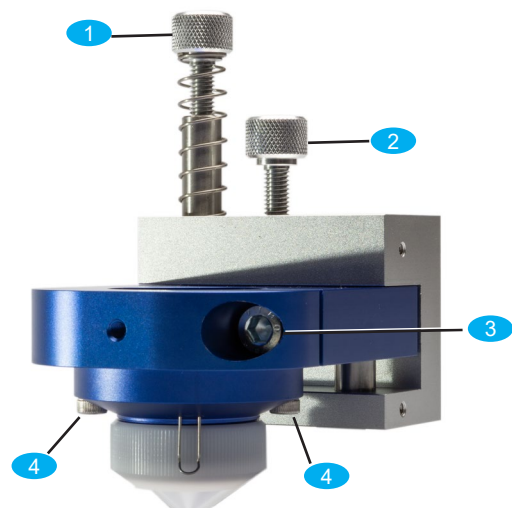

Fig. 3: Adjusting and fastening screws
- Loosen the two screws 4 of the cap holder (see Fig. 3).